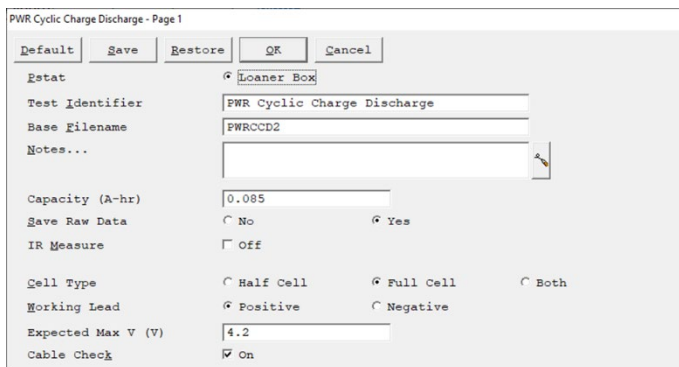

Figure 2- Page one of setup parameters for CCD
4. Go into the Framework software and navigate to "Experiment"- "Electrochemical Energy"- "Cyclic Charge Discharge". Page one of the experimental setup screen will open. See figure 2.